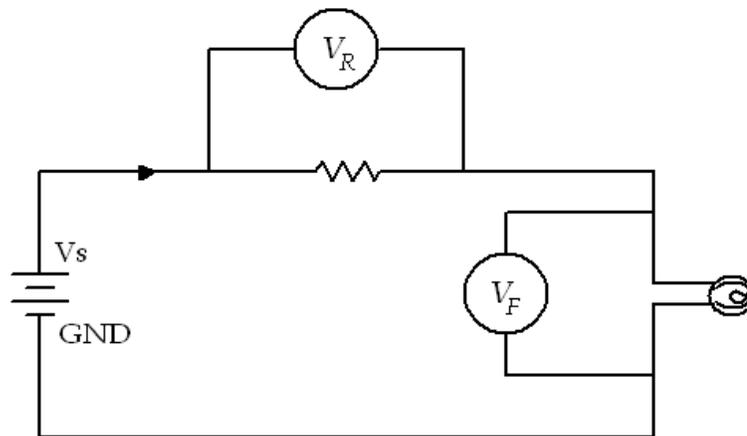

Figure 5. circuit diagram for V-I characteristics of a filament.
- 1) **Connect** the circuit on your bread board as shown in Figure 5 below. If you do not have two multimeters use a single multimeter to measure V_R and V_F . **Show** your connections to your instructor before switching the power supply on.